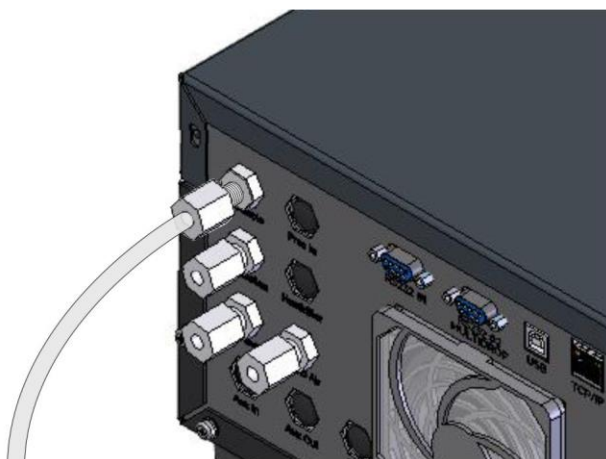

Figure 30 – Insert Tube
5. Refer to Figure 30. Push the tubing into the end of the nut until you hit the tube stop inside the fitting.